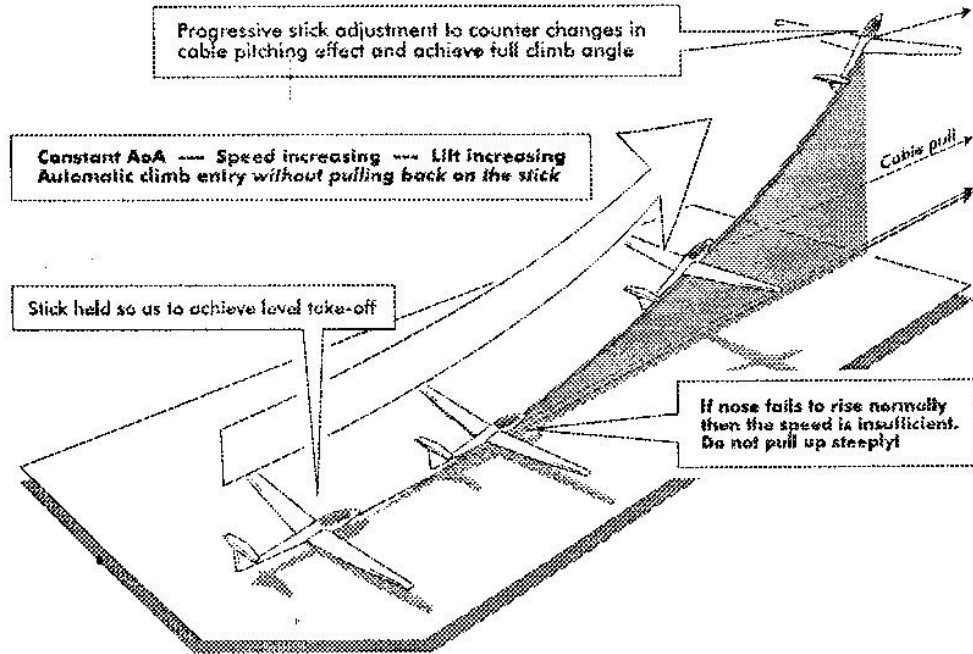

Figure 4: Acceleration and Transition Phases.
- (e) Release the cable **immediately** if a wing goes down or anything else goes wrong during the ground run, e.g. an overrun. Keep the left hand near the tow release knob, or, depending on its position - for example, if applying left aileron will make it awkward to reach - actually take hold of it. If the stick is kept neutral the glider will normally lift-off naturally. Not all gliders react this way, and a few require an active forward pressure on the stick to prevent them pitching up too steeply during the initial rotation. At this stage very few require a positive back pressure – the increasing lift caused by the acceleration normally causes the nose to pitch up at least as much as required. The combination of stick central, approach speed trim and the pull of the cable/rope will rotate the majority of gliders smoothly into the climb, with attitude and airspeed safe. Figure 4 shows the glider in the acceleration and transition phases.